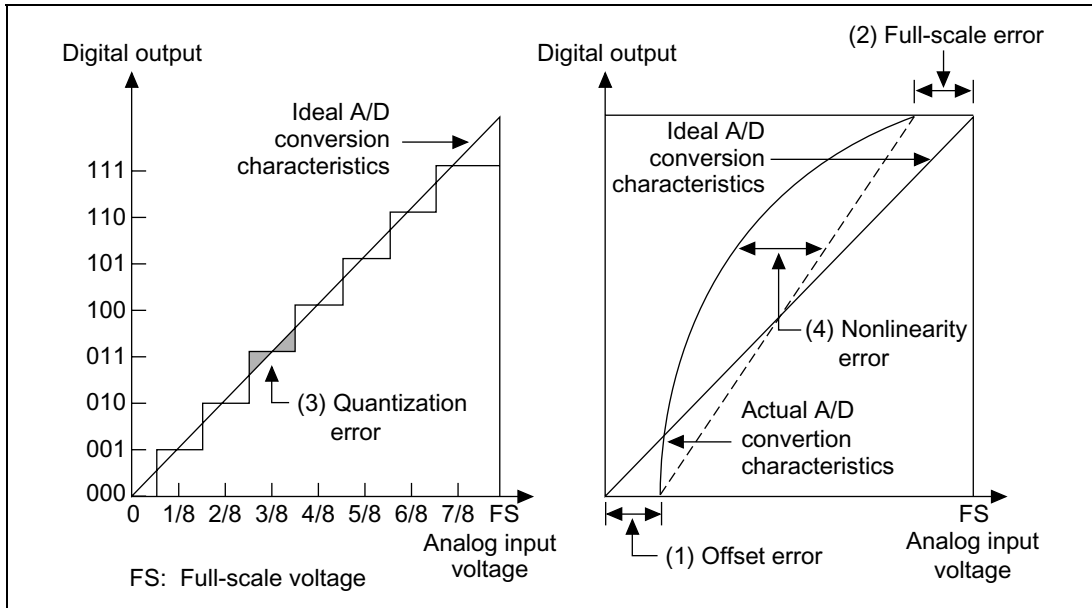

**Figure 28.8 Definitions of A/D Conversion Accuracy**
These four error quantities are explained below using figure 28.8. In the figure, the 10 bits of the A/D converter have been simplified to 3 bits.
Offset error is the deviation between actual and ideal A/D conversion characteristics when the digital output value changes from the minimum (zero voltage) 0000000000 (000 in the figure) to 000000001 (001 in the figure)(figure 28.8, item (1)). Full-scale error is the deviation between actual and ideal A/D conversion characteristics when the digital output value changes from the 1111111110 (110 in the figure) to the maximum 1111111111 (111 in the figure)(figure 28.8, item (2)). Quantization error is the intrinsic error of the A/D converter and is expressed as 1/2 LSB (figure 28.8, item (3)). Nonlinearity error is the deviation between actual and ideal A/D conversion characteristics between zero voltage and full-scale voltage (figure 28.8, item (4)). Note that it does not include offset, full-scale or quantization error.